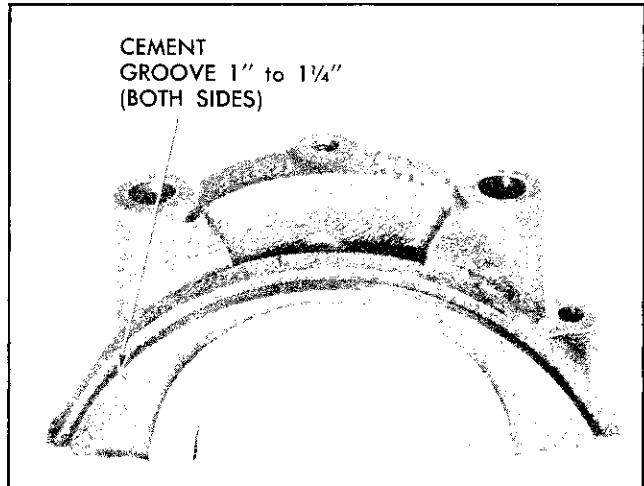

Fig. 6-102 Rear Oil Pan Gasket Positioned in Bearing Cap
2. Install new oil pan gasket in rear main bearing cap (Fig. 6-102).